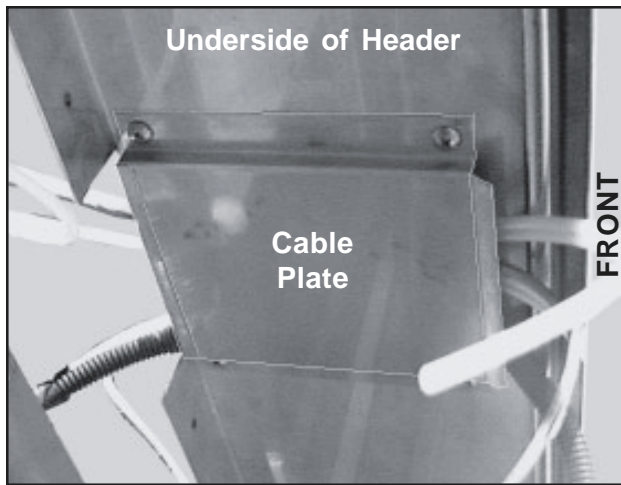

Figure 118. Cable Plate Mounted
9. With a Phillips screwdriver, unscrew the four screws which hold the cable plate to the header (Figure 118) and remove the plate. This frees up all the air and electrical lines from the back of the front panel including the black slit-sleeve tubing and the 7-pin connector cable.